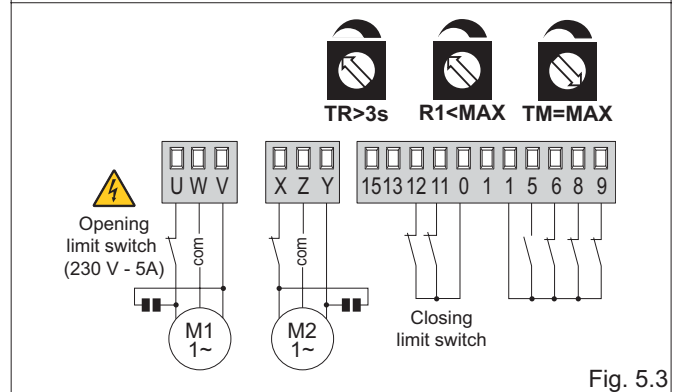

Fig. 5.3
- **(Fig. 5.3) Door wings stop against limit switches and reverse motion in the event of obstacle detection.**